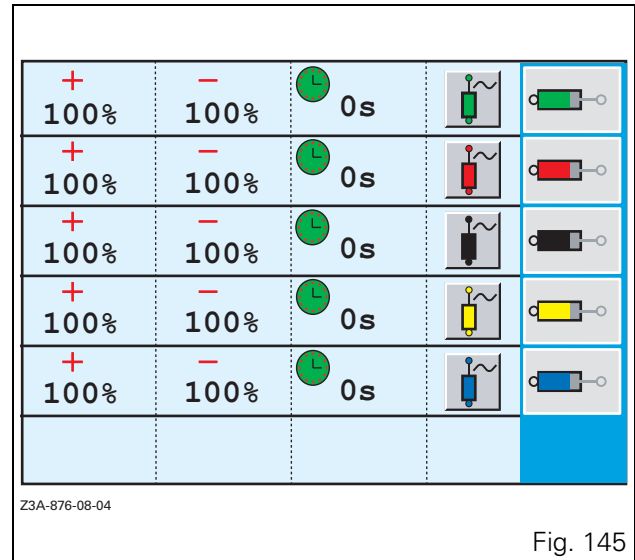

Fig. 145
7.12.3.2 - Setting spool valve activation times (Fig. 145)